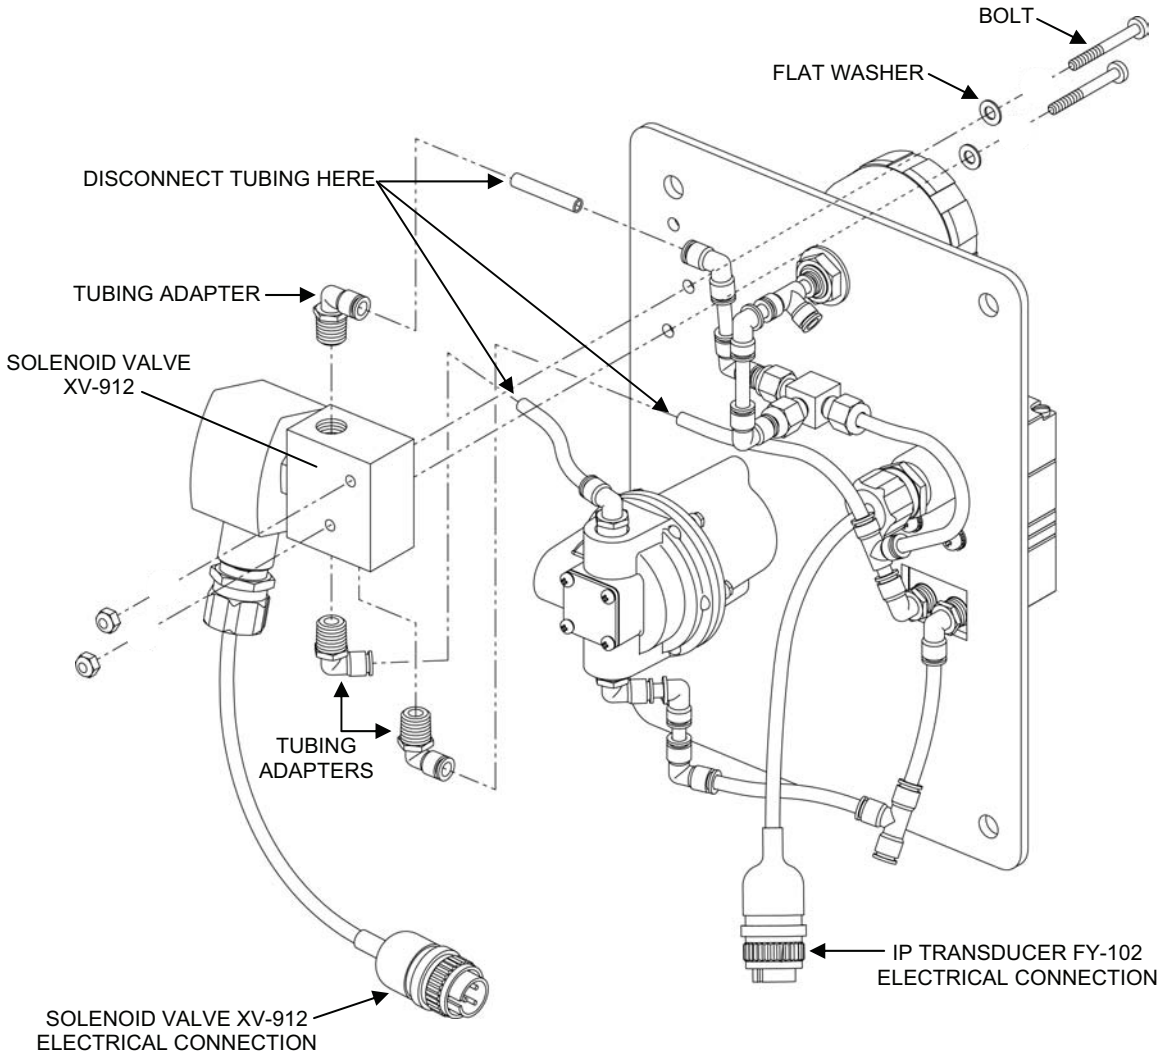

Figure 5. Three Way Solenoid Valve XV-912.
1. Remove 3-Way Solenoid Valve XV-912 from the feed flow control panel assembly as follows (see Figure 5):